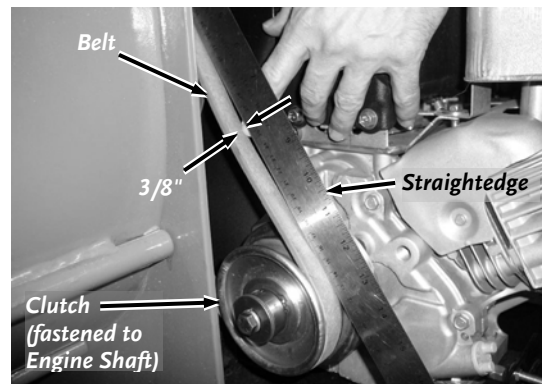

Figure 26
6. Place a Straightedge on the Belt (over the Clutch and Sheave) and push down on the Belt to measure the deflection from the Straightedge to the Belt with a tape measure (**Figure 26**).